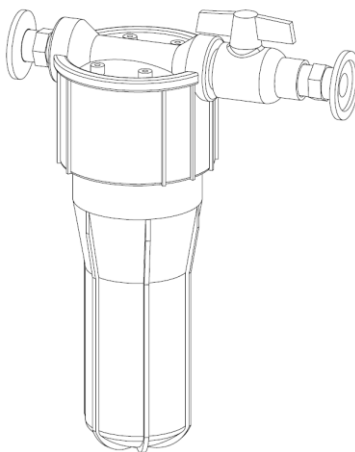

Figure 18 - Small Capacity Solvent Removal - External
- 1 Using a 5/32nd " Allen wrench, loosen the hardware to slide the top panel (**FIGURE 18**) open.